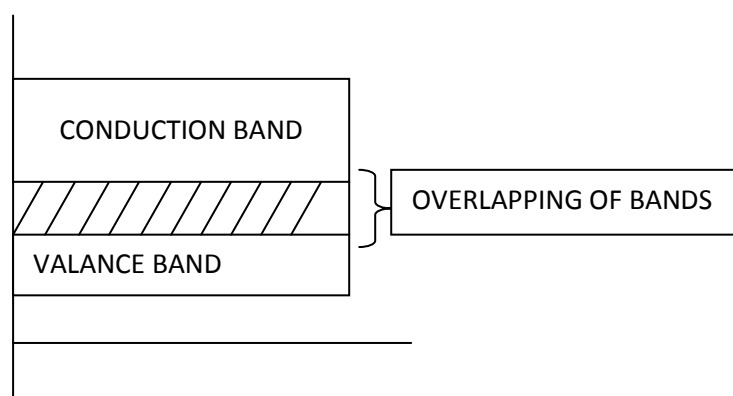

Fig. 1.1 Energy Bands in Metals (Conductors)
- In terms of energy band, the valence and conduction bands overlap each other as shown in Fig. 1.1. Due to this overlapping, a slight potential difference across a conductor causes the free electrons to constitute electric current. Thus the electrical behaviour of conductors can be satisfactorily explained by the band energy theory of solids.